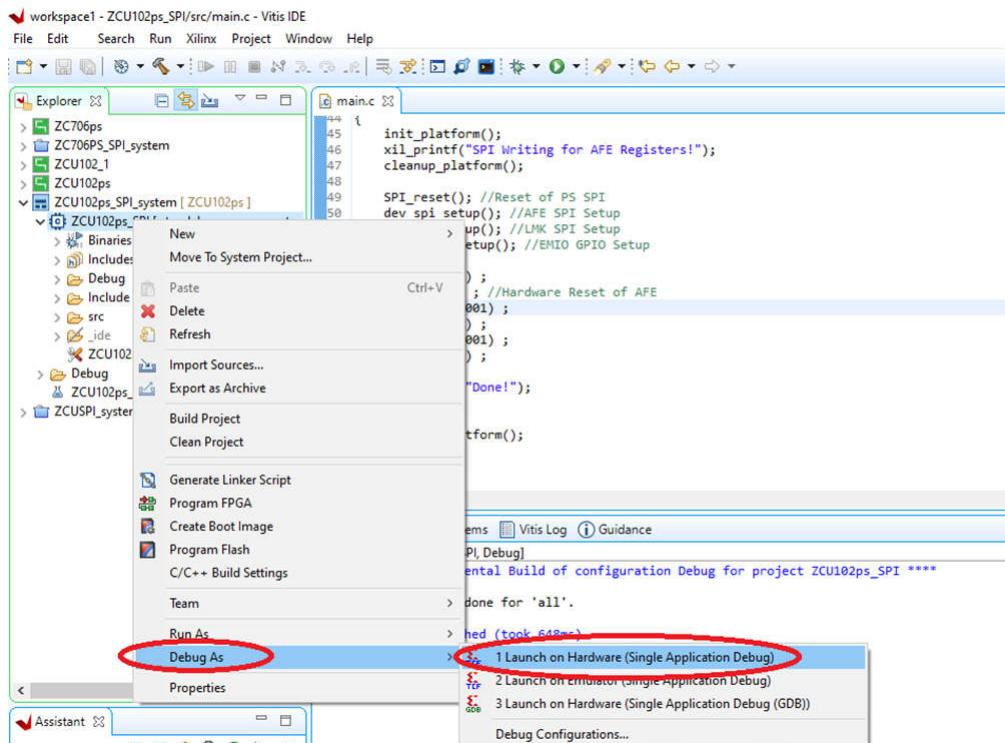

**Figure 14-3. VADJ\_FMC Voltage**
4. Confirm the same by reading the VADJ\_FMC voltage. The voltage value must be 1.80V (see Figure 14-3).